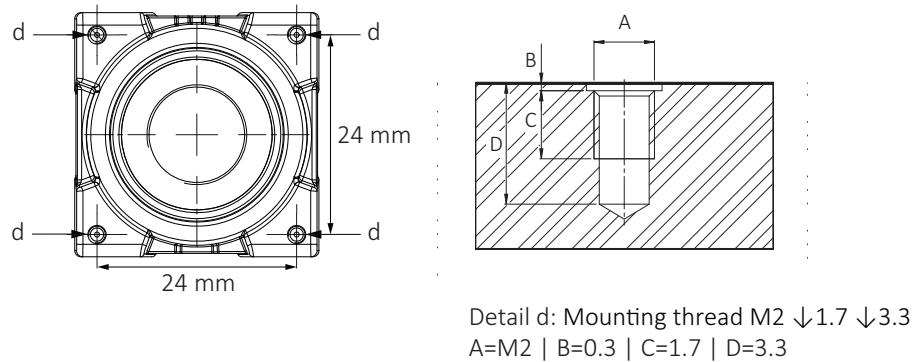

Figure 67: Camera front with mounting threads (d)
1. Mount the camera to the base using suitable M2 screws at 0.17 Nm maximum torque for a thread engagement (C) of 1.7 mm between screws and mounting threads, see Figure 67. For technical drawings, see Dimensions and mass on page 132.